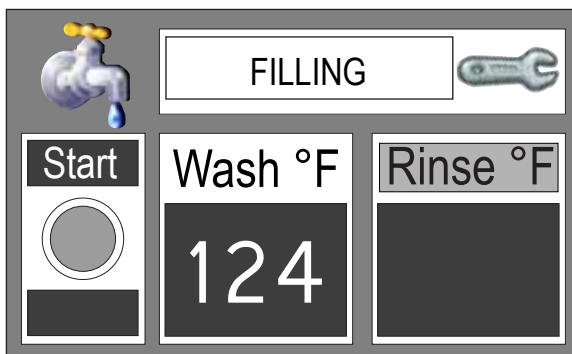

Fig. 17
- 2 Touch 'FILL RESET' and then 'MAIN' to clear the 'CHECK DRAIN' message. The display will return to the 'FILLING' shown in Fig. 17.